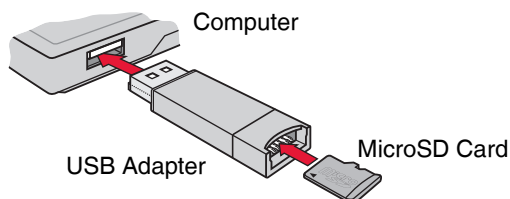

Fig. 268.
3. Connect a microSD card to a USB adapter. Then connect the USB adapter to your computer. See Fig. 268.